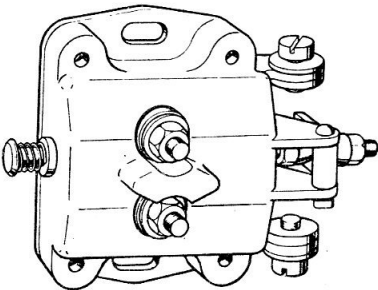

Fig. 1. Limit switch, Type LS1721, Mk. 35
2. This switch (fig. 1 and 2) is a double-pole snap-action change-over type. The mechanism is contained in a black plastic case mounted on a duralumin base plate, and provided with two mounting slots.